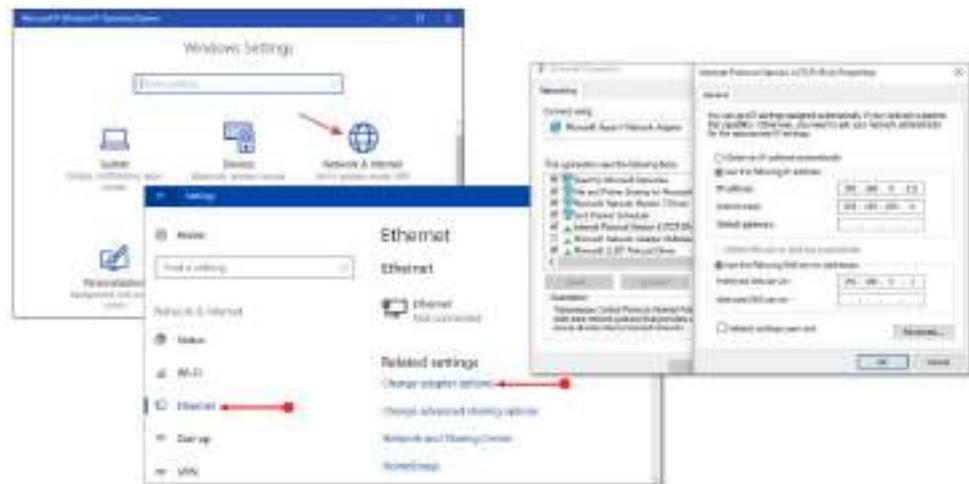

Figure 4
- Step 5.** Select Tap the entry named “**Internet Protocol Version 4 (TCP / IPv4)**” and press “**Properties**” key. (See Figure 4)